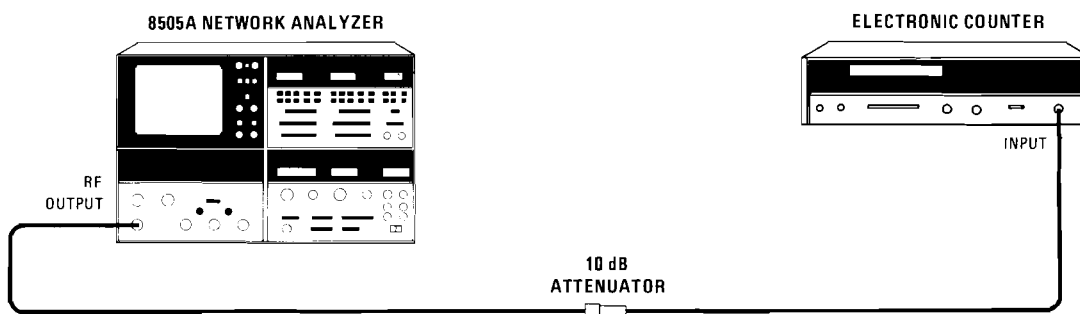

Figure A4-1. Frequency Accuracy Test Setup
- b. Connect equipment as shown in Figure A4-1 and set external counter resolution to 100 Hz.